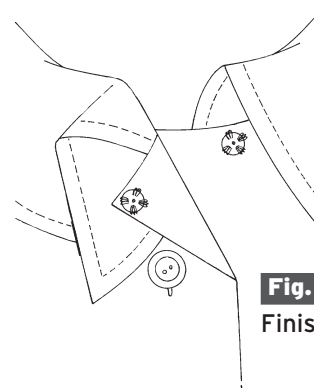

Fig. 14-8
3. Place the socket half of the snap in position with the socket facing up. Stitch the socket half in place. When moving from one hole to another, slide the needle under the snap to the next hole. Fasten the thread when finished. (Fig. 14-8)